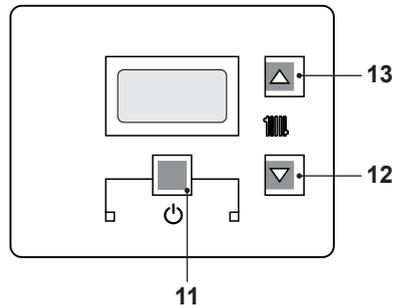
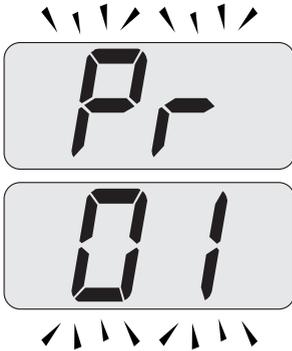
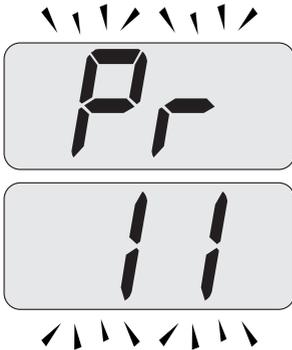

Fig. 7.27
Fig. 7.28
Fig. 7.29
- Enter in "programming mode" by pressing keys 11 - 12 - 13 (Fig. 7.27) for 10 seconds at the same time until the letters **Pr** that alternate with code **01** are displayed on the LCD display, indicating that "parameter 01" (Fig. 7.28) has been activated.
- Scroll the various parameters using keys 12 or 13 until the letters **Pr** that alternate with code **11** are displayed on the LCD display, indicating that "parameter 11" (Fig. 7.29) has been activated.
- Press keys 11 and 13 (Fig. 7.27) at the same time until the value of parameter 11 (10=60 seconds) (Fig. 7.30) is displayed on the LCD display .
- By pressing key 11 (Fig. 7.27) confirmation of the inserted value is obtained.
- Press keys 11 and 12 (Fig. 7.27) at the same time to exit without changing the value (return to the parameters list Fig. 7.29)
- Press keys 11 - 12 - 13 (Fig. 7.27) at the same time for 10 seconds to exit the "programming mode".